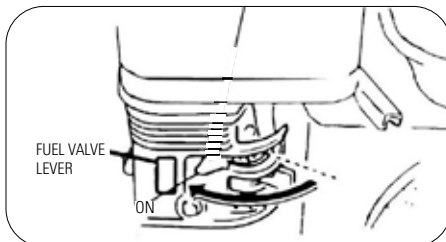

FIGURE 10.10
- Turn the fuel valve lever to the OFF position. Figure 10.10